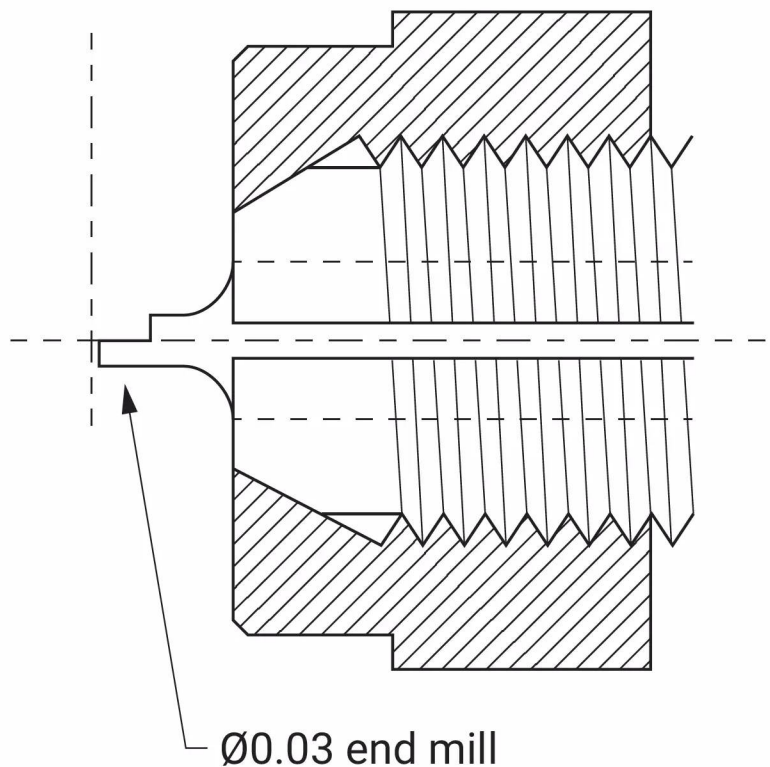

Figure 8
Cutters for machining fine details in a work-piece seem to be sold under the headings of either 'engraving cutters' or 'micro-milling cutters'. The former include a wide variety of shapes but seem to be mainly designed for cutting only shallow grooves and many are shaped simply as pointed D-bits as shown in **photo 11**. I have no experience of using these but assume that the simple tapering shape of such cutters makes them relatively robust. That pointed shape seems unsuitable for most micro-milling tasks, other than engraving, although in the 1950s Prof. Chaddock, ref. 13, used home-made D-bit type cutters with a short parallel section and a flat end, **fig. 8**. He ground the ends of pieces of 1/8 in. diameter high speed tool steel down to 0.030 ins. while they were held in his spindle, and this would have ensured the cutters ran true. He was able to cut turbine blades in a particularly tough grade of steel, although he could only cut two blades at a time before having to re-sharpen the cutters. I don't know how feasible it would be to make cutters of this type much thinner than 0.03 ins (0.76 mm). These days cutters are available commercially down to less than 0.1 mm diameter.